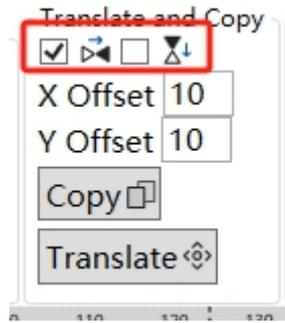

Fig. 5.3.6e X/Y Axis Mirror Setting
④ Check whether to perform X/Y axis mirroring and enter the offset distance. Take vertical mirroring as an example, as shown in Fig. 5.3.6e below.